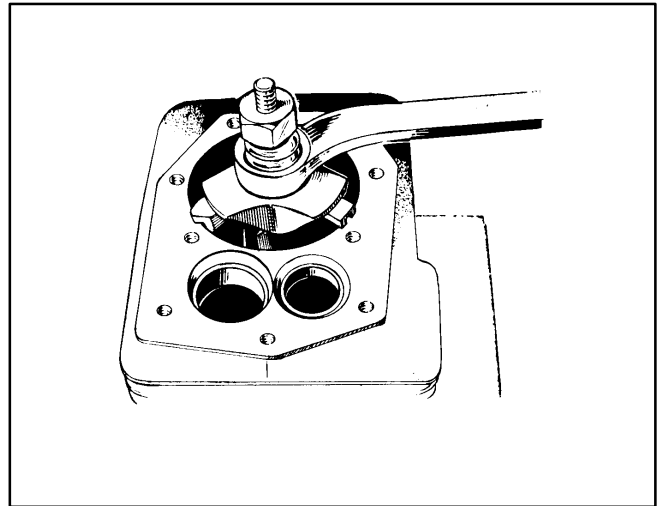

FIGURE 41. CYLINDER RIDGE REAMER
1. Remove the ridge at the top of the cylinder with a ridge reamer before attempting to remove the piston (Figure 41).